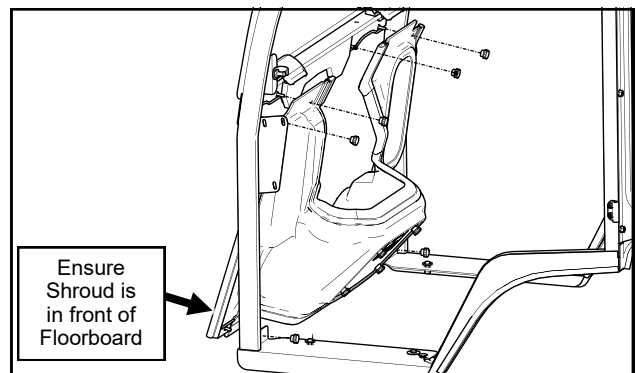

Fig. 16.1a (Radiator Shroud Installation)
- 16.1 With assistance, install the Radiator Shroud as shown from the inside of the cab. See Fig. 16.1a and 16.1b. Make sure the radiator shroud is on the outside of the flanges at the front of the cab floorboards, with the threaded studs through the holes in the floorboards.
16.2 Attach the Radiator Shroud to the cab with Thumb Nuts: one at each floorboard and two on each side of the cowl. See Fig. 16.1a.